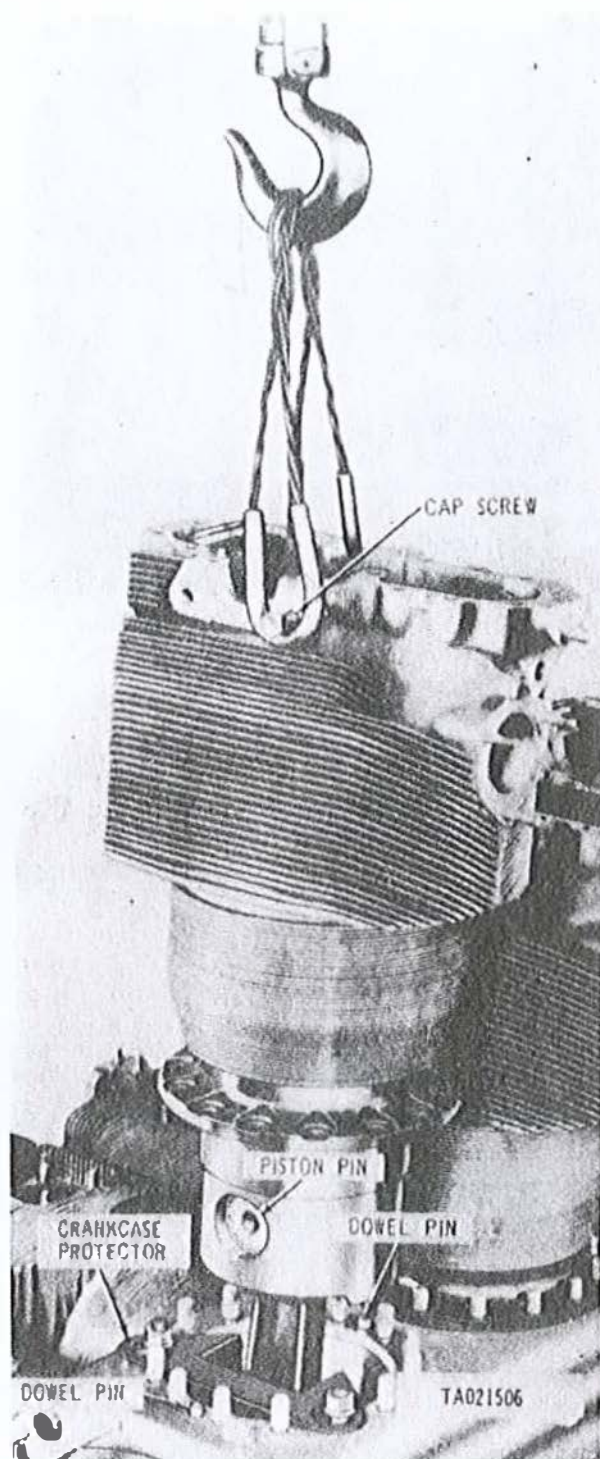

Figure 3-104. Removing cylinder No. 1R.
f. Attach a suitable lifting sling to top of cylinder assembly using two 7/16 x 1 1/4 inch capscrews (fig. 3-104). Carefully lift cylinder assembly until cylinder is just above piston pin bore. Install crankcase protector Part No. 10882790 on cylinder mounting pad studs and secure with two cylinder base nuts and remove cylinder assembly. Replaceable camshaft bearing halves should remain with the cylinder.